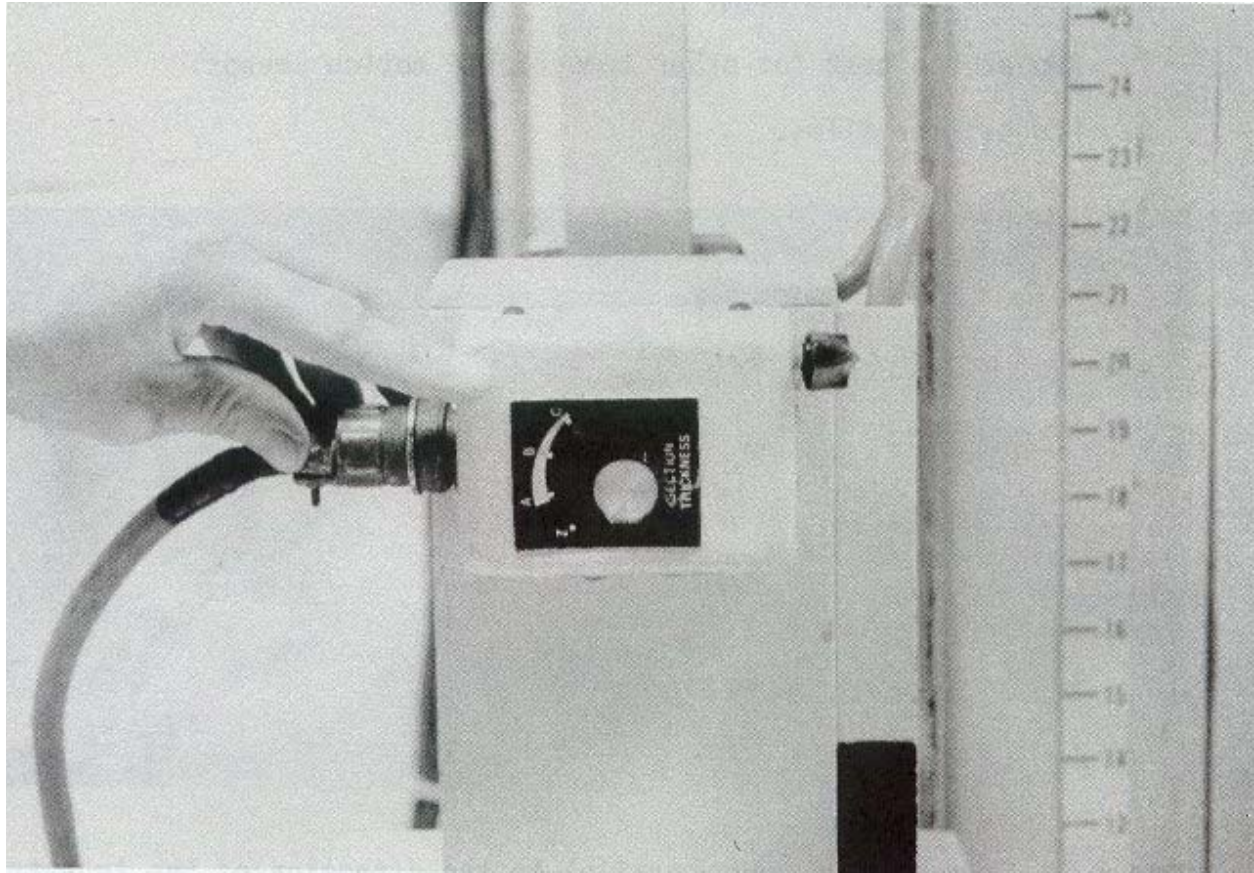

Figure 6-9. Test for all section thickness selections (example of 4 here).
- (1) Tomographic motion.
- (2) Sweep speed.
- (3) Exposure angle.
- (4) Cut level.
**NOTE:** This is the thickness of the cut plane (see figure 6-9).